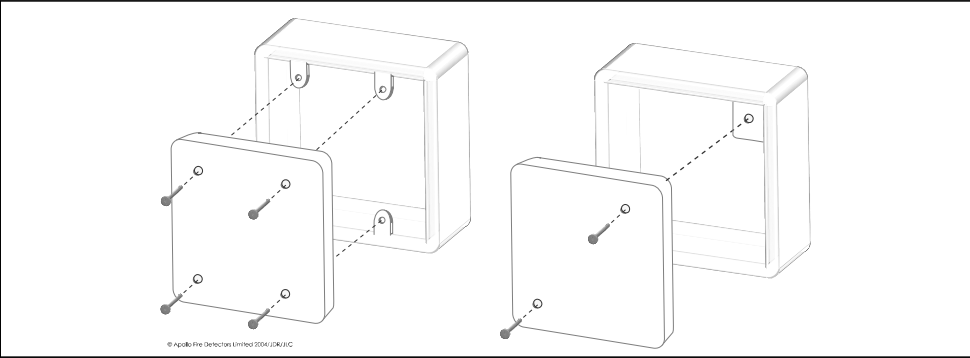

Fig. 1 Mounting the XP95A Sounder Control Module
- 2. Drill holes in the face plate corresponding to the holes on the mounting box selected (Fig. 1).